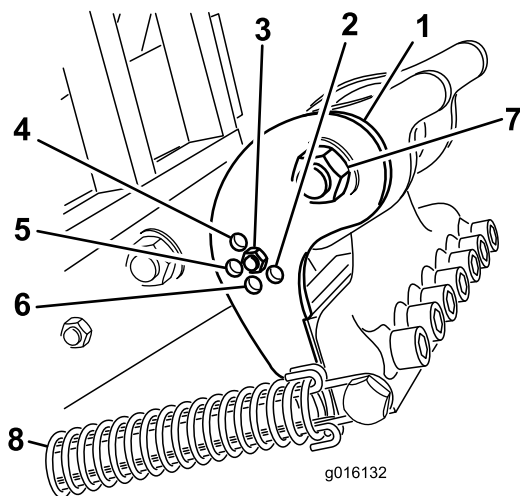

Figure 38
Set the camber bracket (Figure 38) to the correct position based on the tine length. The head stop is set to 1 of 5 predetermined positions by choosing the hole through which you bolt the adjustment rod. These holes are presets only; for instance, by using a 10-inch tine in the 12-inch position you may achieve a smoother finish; depending on the application.
3. Release the spring tension to the tine head (Figure 38).
4. Remove the nut and bolt at the adjustment holes in the camber bracket (Figure 38).